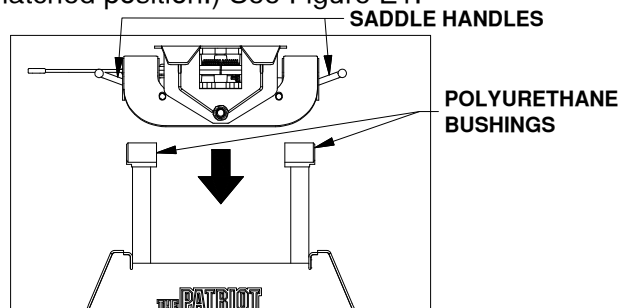

Figure E1: View of coupler and base. (Saddle handles up)
1. **Place coupler.** Lubricate the polyurethane bushings on top of the pivot arms with high grade lithium grease (available at your local hardware/automotive store). Pick up the coupler by lifting up on both saddle handles which will open the saddle latches. Place the coupler over the pivot arms and allow the saddle latches to fall back to their original positions. (The saddle handles should be parallel with the base in the latched position.) See Figure E1.